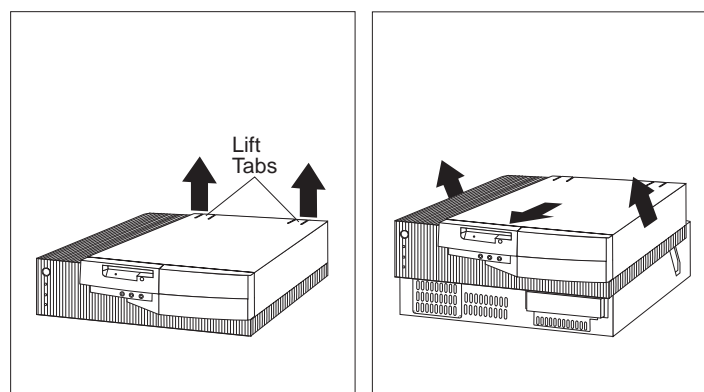

Figure 10. Remove the 6275 Covers
- \_\_\_ 1. Refer to Figure 10